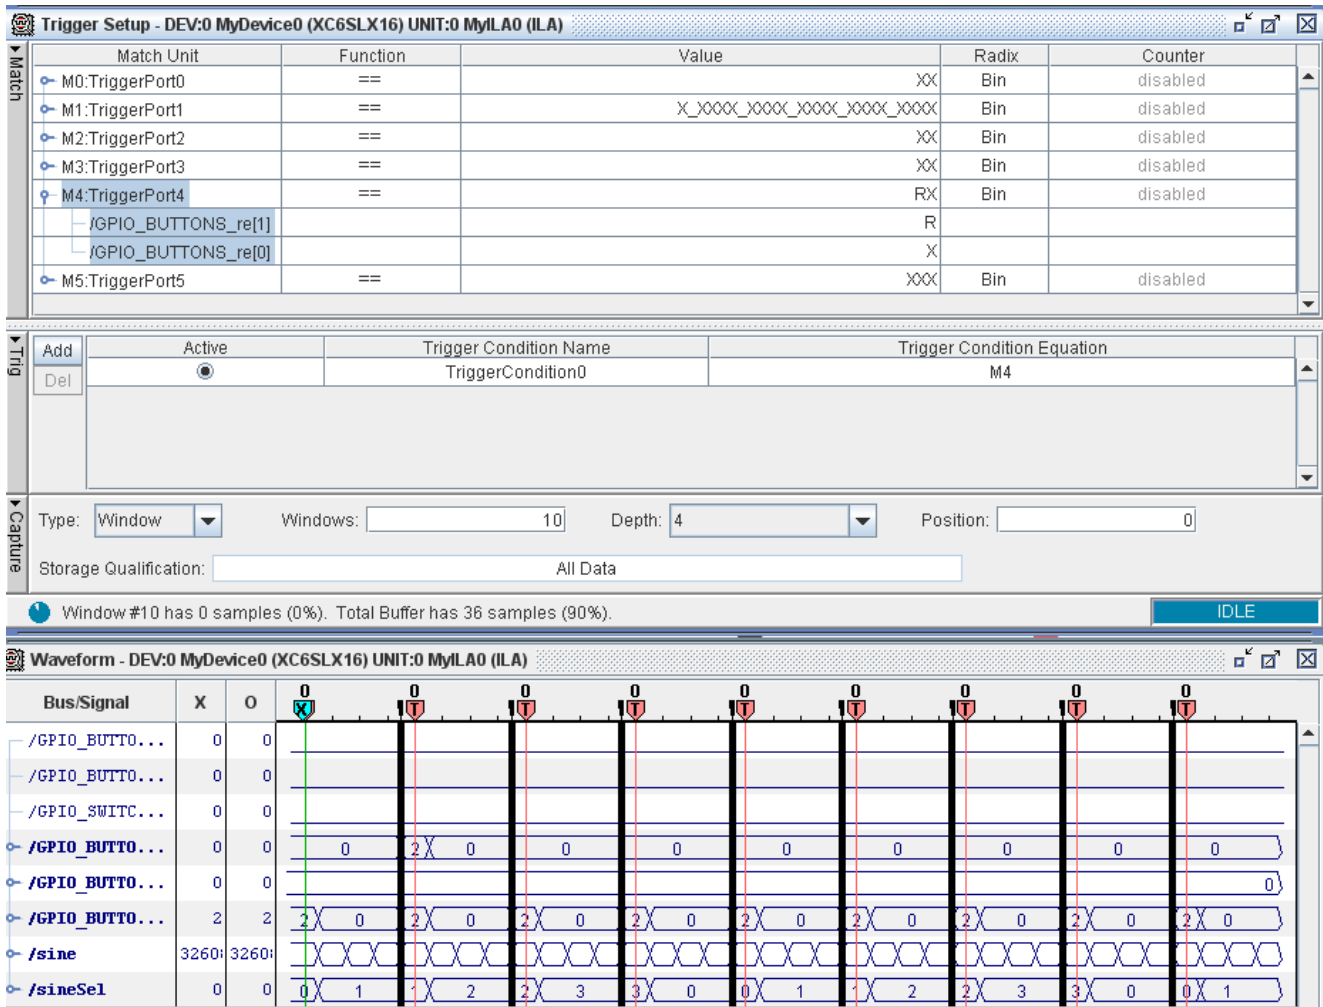

Figure 7: Sample View of Display Setting and State Machine Glitch
3. In the **Trigger Conditions** area of the **Trigger Setup** window, click inside the **Trigger Condition Equation** field. In the resulting dialog box, ensure that the appropriate match unit is enabled. You can tell that the correct match unit is enabled if it is highlighted in blue, as shown in Figure 7, page 17.
4. In the Capture area of the Trigger Setup window, shown in Figure 7, change the settings as follows:
3. Push the *Sine Wave Sequencer* button on the SP601 board. Each button push generates one or more “windows” that show segments of time on the time axis of the waveform. Observe the number of windows captured in the status bar that appears just below the capture settings. (The status bar is shown in Figure 7, page 17.) If more than one window is captured with a single push of the button, you have determined that there is an issue on the GPIO_BUTTON[1] input. If only one window is captured, try again. You might have to push the button several times to reproduce this intermittent glitch. As soon as a single button push generates multiple windows, go on to the next step.